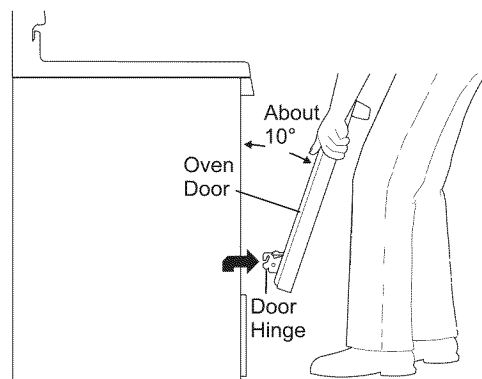

Fig. 3
3. Firmly grasp both sides of oven door along the door sides (Do not use the oven door handle - Fig. 3).
1. Firmly grasp both sides of oven door along the door sides (Do not use the oven door handle - Fig. 3).